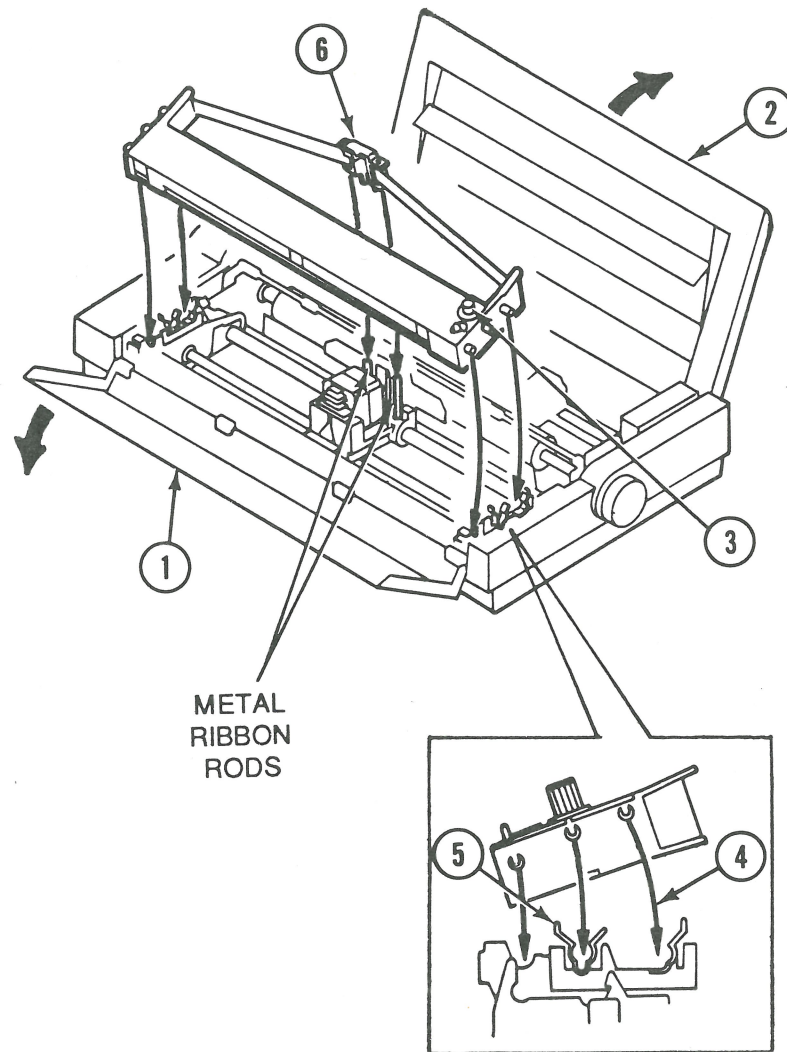

FIGURE 9
3. Open the back cover (Figure 9, #2) and then the front cover (Figure 9, #1) of the printer.
4. Locate the ribbon knob on top of the ribbon cartridge (Figure 9, #3).
5. Holding the ribbon cartridge top side up, lower it into position in the printer (Figure 9, #4).
6. Gently press on the cartridge so that the tabs on both ends (Figure 9, #5) snap into place.
7. Slide the two plastic tubes of the ribbon clip-in guide onto the metal rods (Figure 9, #6). Gently press down on the clip-in guide until it snaps into place.
8. Turn the ribbon knob on top of the cartridge to the right (clockwise) to remove any slack in the ribbon (Figure 9, #3).